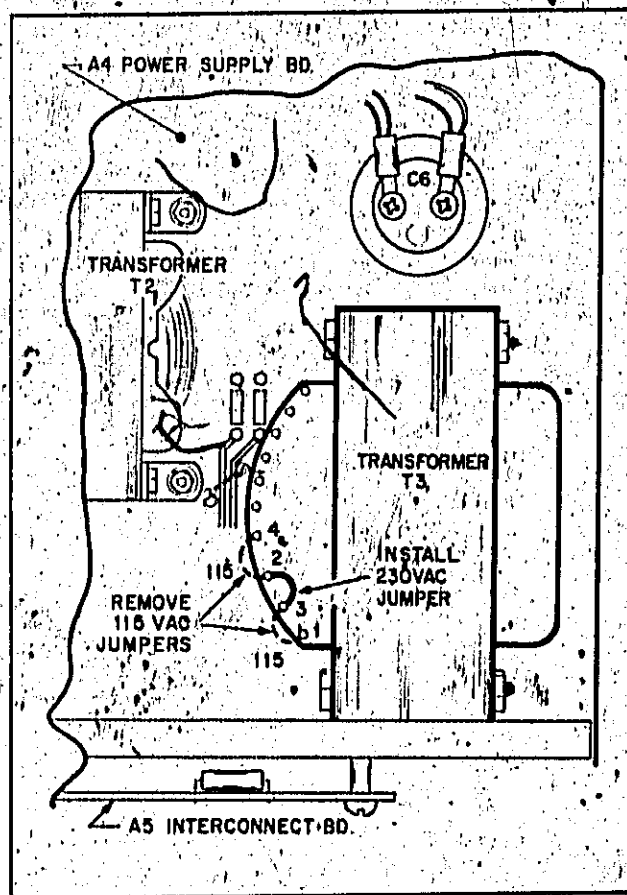

Figure 2-2. Primary Connection for 230Vac Operation
2-20 CONNECTIONS FOR 230 VOLT OPERATION (Figure 2-2)
b. Looking from the rear of unit, locate the 115Vac jumpers between terminals 1, 3, and 2, 4 of transformer T3 (see Figure 2-2).
c. Remove both 115Vac jumpers and solder the 230Vac jumper between terminals 2 and 3 of transformer T3 as shown in Figure 2-2.